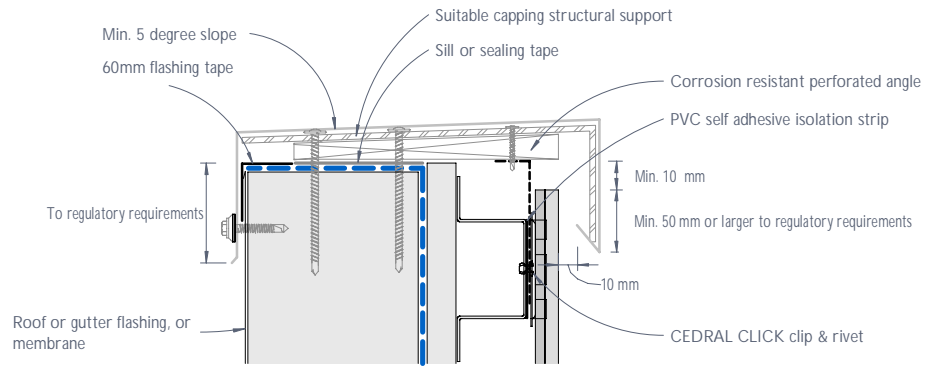

Figure 39: CEDRAL CLICK typical capping detail
- 2) Capping shall be designed and engineered accordingly to provide adequate allowance for ventilation as shown in Figures 39 & 40.